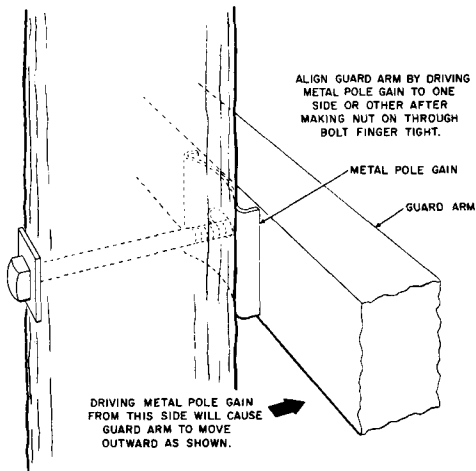

Fig. 5 — Metal Pole Gain Installed
3.02 A metal pole gain installed (as shown in Fig. 5) may be used to avoid the necessity of cutting a gain in the pole.